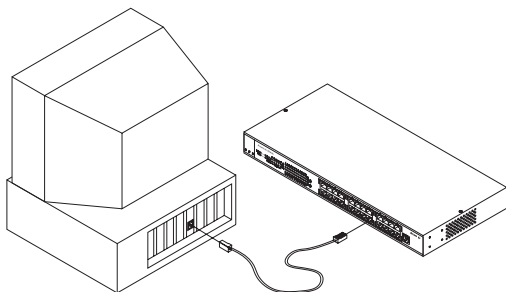

Figure 2-4 Connecting to computers
4. Turn on the PC and check if the **Link** LEDs on the adapter card and the hub (Named as **Link/REC**) are lit up. See Figure 2-4